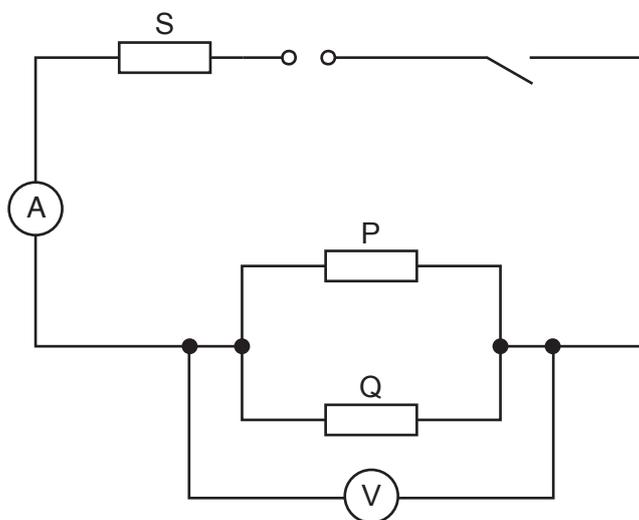

Fig. 3.1
- (iv) Sufficient connecting leads to set up the circuit shown in Fig. 3.1 and two extra leads.
1. The circuit is to be set up for candidates as shown in Fig. 3.1. Candidates must be able easily and quickly to disconnect and connect circuit components.
Connect the circuit as shown in Fig. 3.1 and check that the circuit is working.